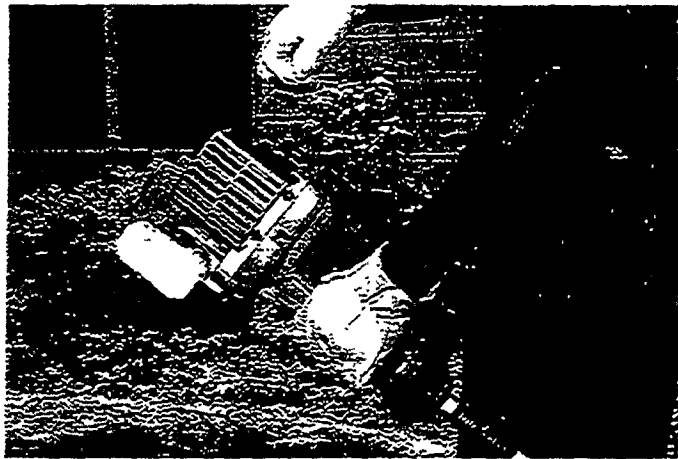

Figure 9
- Lock throttle in the start position as shown (Fig. 9). Pull the starter in short rapid strokes until engine starts.